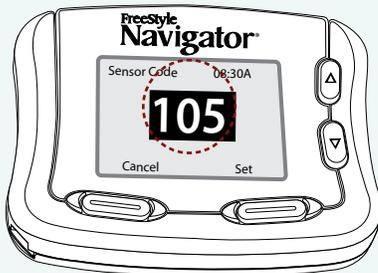

Fig. 2
- c. Press the UP or DOWN Arrow button to change the number on the receiver screen to the number on the packaging. (Fig. 2).